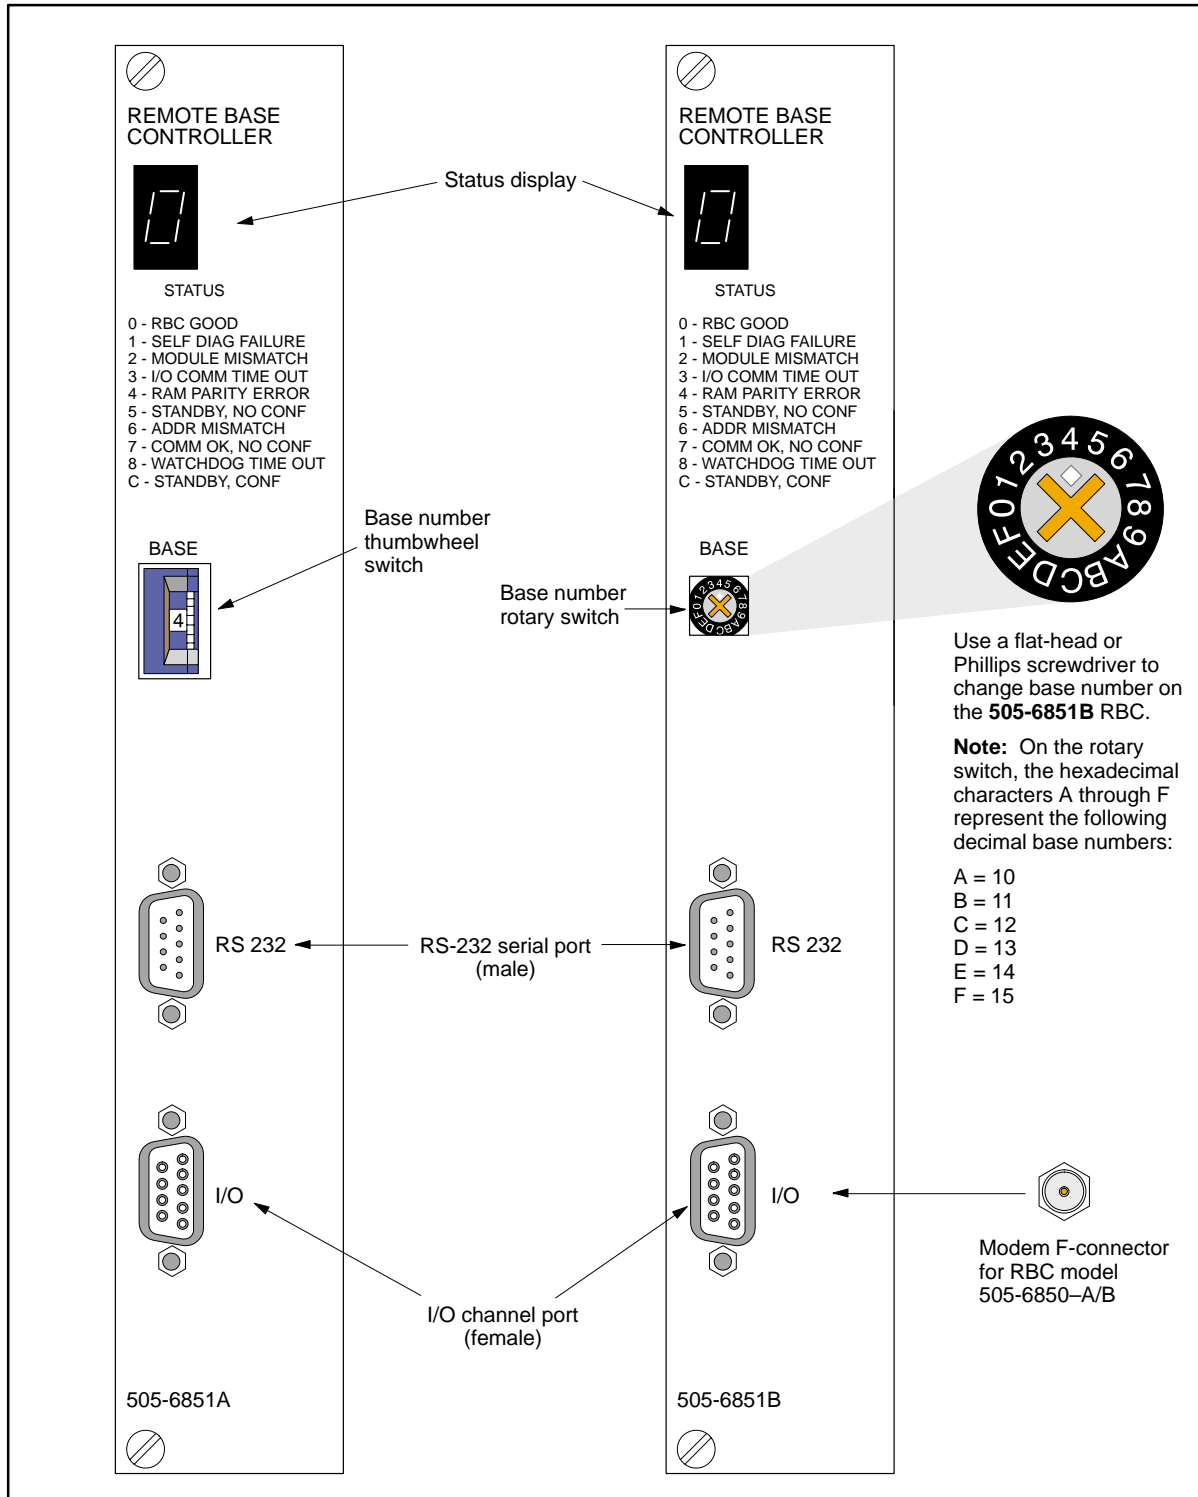

Figure 5-7 RBC Status Display and Base Number Switch
The base containing the Series 505 CPU and local I/O is designated base 0. You can connect up to 15 remote bases to your Series 505 system, numbered 1 through 15. If you are using more than one RBC, each RBC must be uniquely numbered. (Figure 5-7 shows the location of the base number switch on the front of the RBC models.)
- A rotary switch on the –B version RBC is used to assign the base number. Base numbers 10 through 15 are represented by the hexadecimal characters A through F. (See Figure 5-7.)